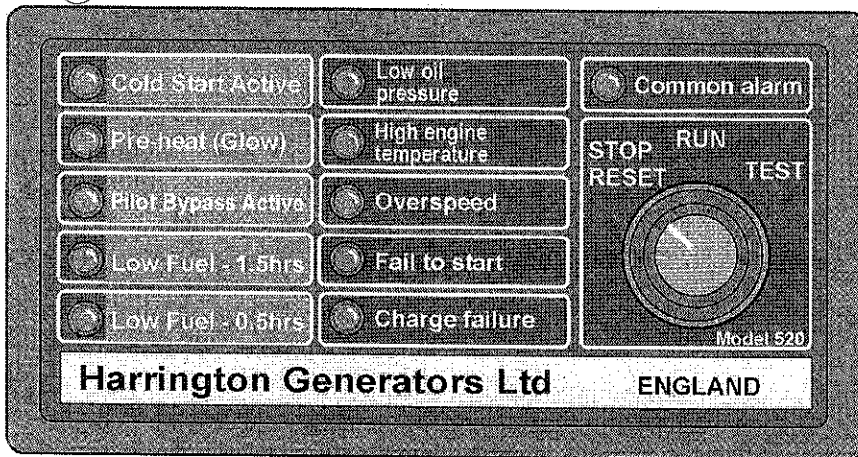

Fig 2. Control panel and control module
- 3 Access to the control module (Fig 2) for the interface link is via the 'Remote Control' connector adjacent to the output sockets (Fig 1). The interface link connects into the serial port of the computer.